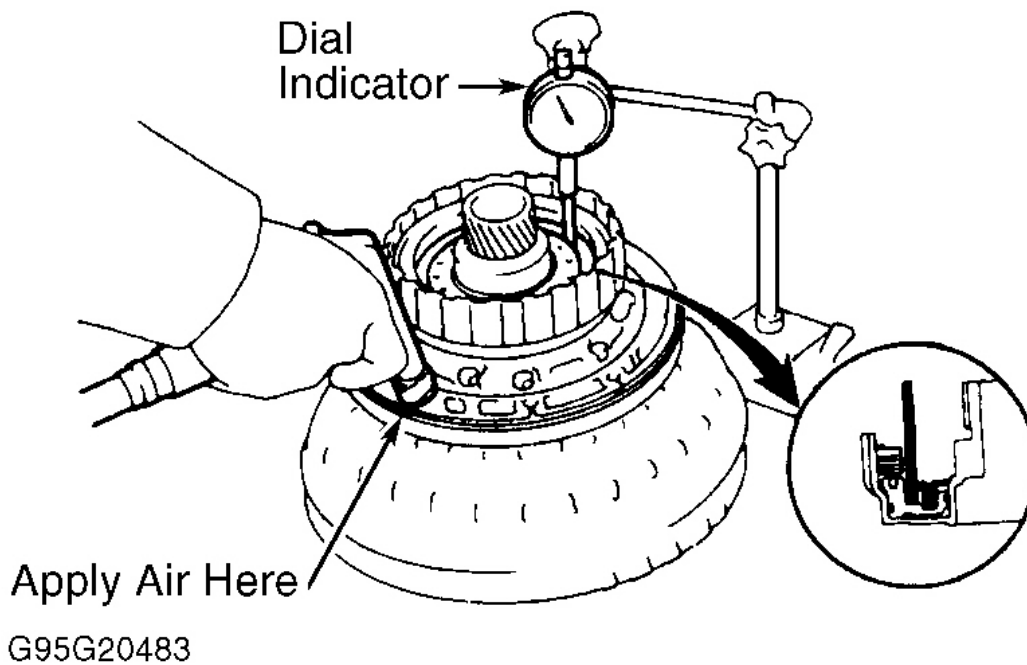

Fig. 28: Removing OD Clutch Piston & Measuring Stroke
- Using appropriate compressor, compress return spring assembly and remove snap ring. Release compressor and remove return spring assembly. Place oil pump on torque converter. Place clutch drum on oil pump. Hold clutch piston and carefully apply air pressure to oil pump port. See **Fig. 28** . Remove OD clutch piston.
4. With clutch drum open area facing upward, install plates and discs, starting with plate. Install flange with flat end facing toward disc. Install snap ring. Place oil pump on torque converter. Place clutch drum on oil pump. Measure piston stroke while applying 57-114 psi (4-8 kg/cm²) to oil pump port. See **Fig. 28** . Piston stroke should be .073-.085" (1.85-2.15 mm). If piston stroke is not within specifications, check for incorrectly assembled components. Recheck piston stroke.